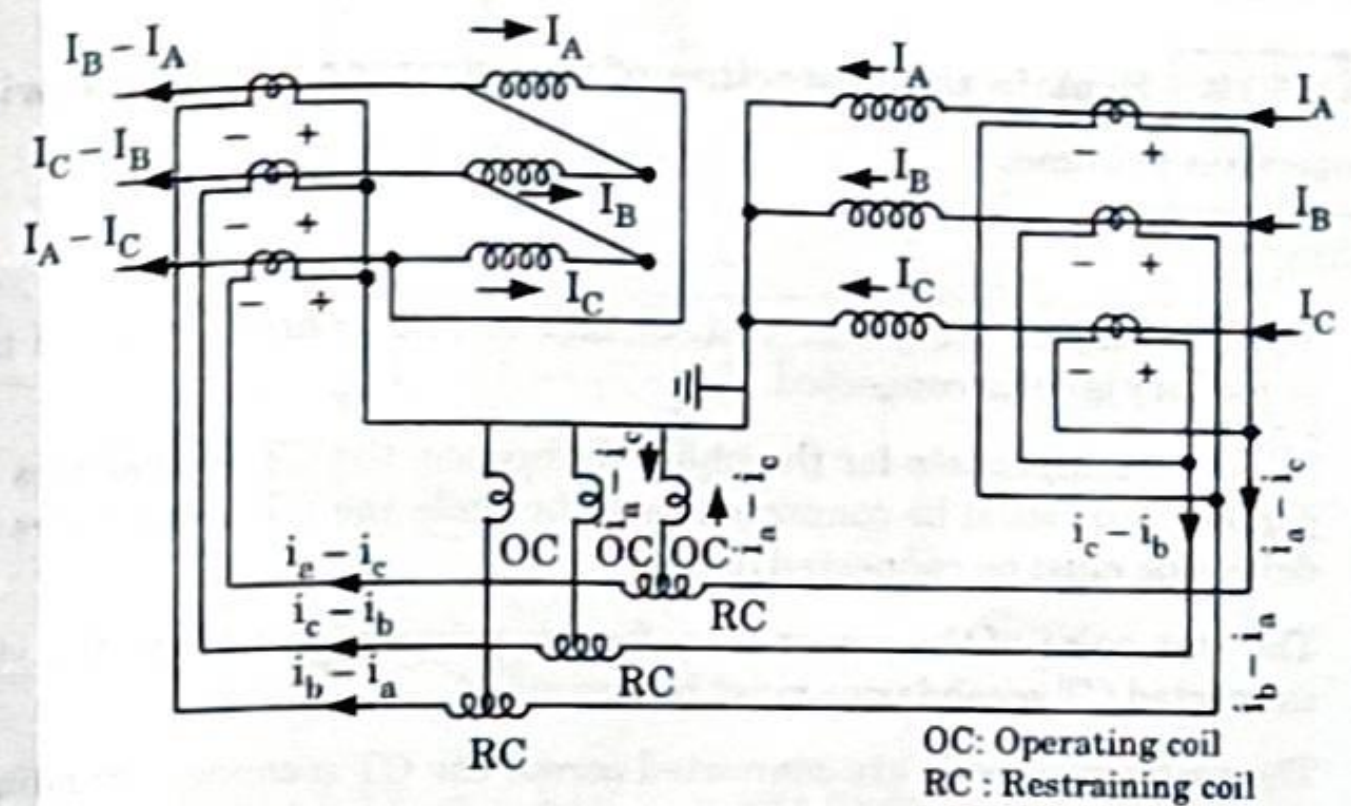

Fig. 3.9.1. Percentage differential protection for Y-Δ connected transformer.
3. 'OC' are the operating coils and 'RC' are the restraining coils of the relay in Fig. 3.9.1. The connections are made in such a way that in case of external faults or normal operation, the current flows in the operating coils of the relay.